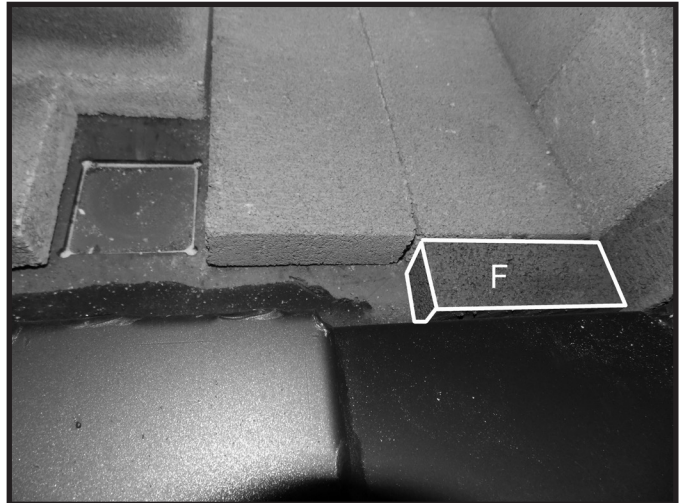
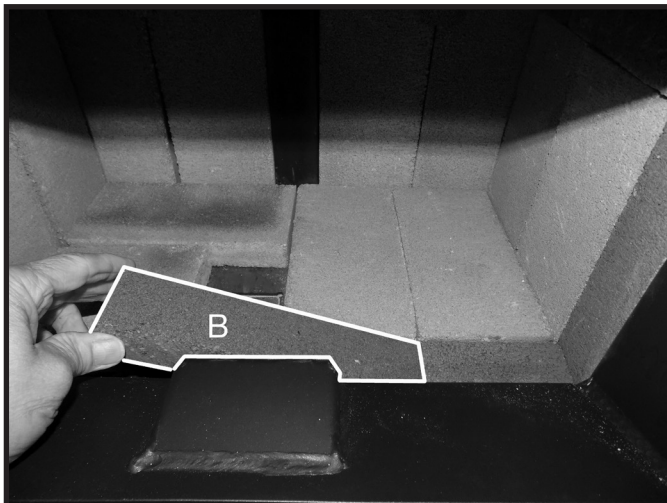

Figure 29: Short, narrow brick installed in front row.
Figure 30: Long narrow center brick in front row.
10. Place a short narrow "F" brick against the front right side of the floor (Figure 29) followed by a longer "B" brick in the center of the front row (Figure 30). Finish with the last "F" brick placed against the left side front row (Figure 31). Note: There will be a leftover gap behind the ash dump.